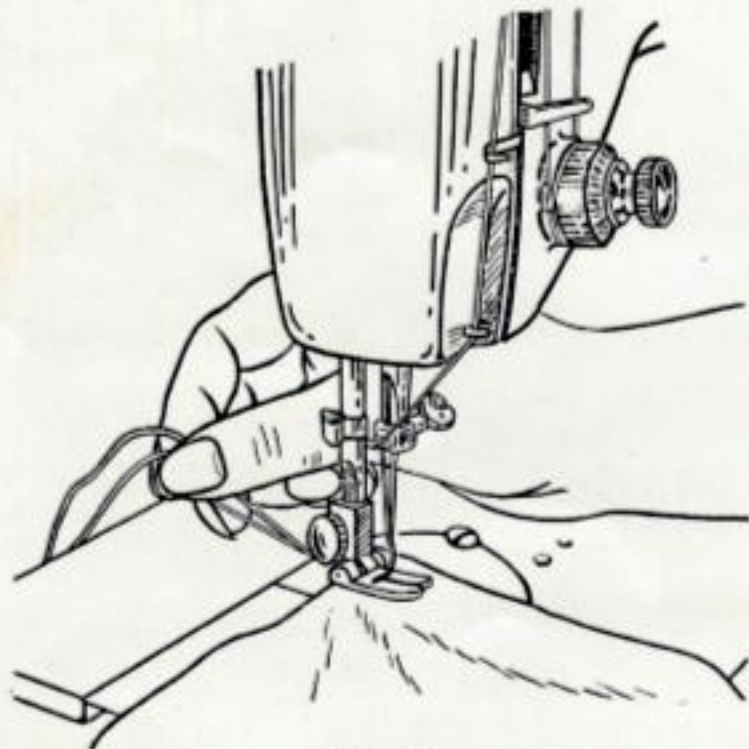

Fig. 13
4. Place both ends of the upper and lower thread behind the presser foot (Fig. 13).